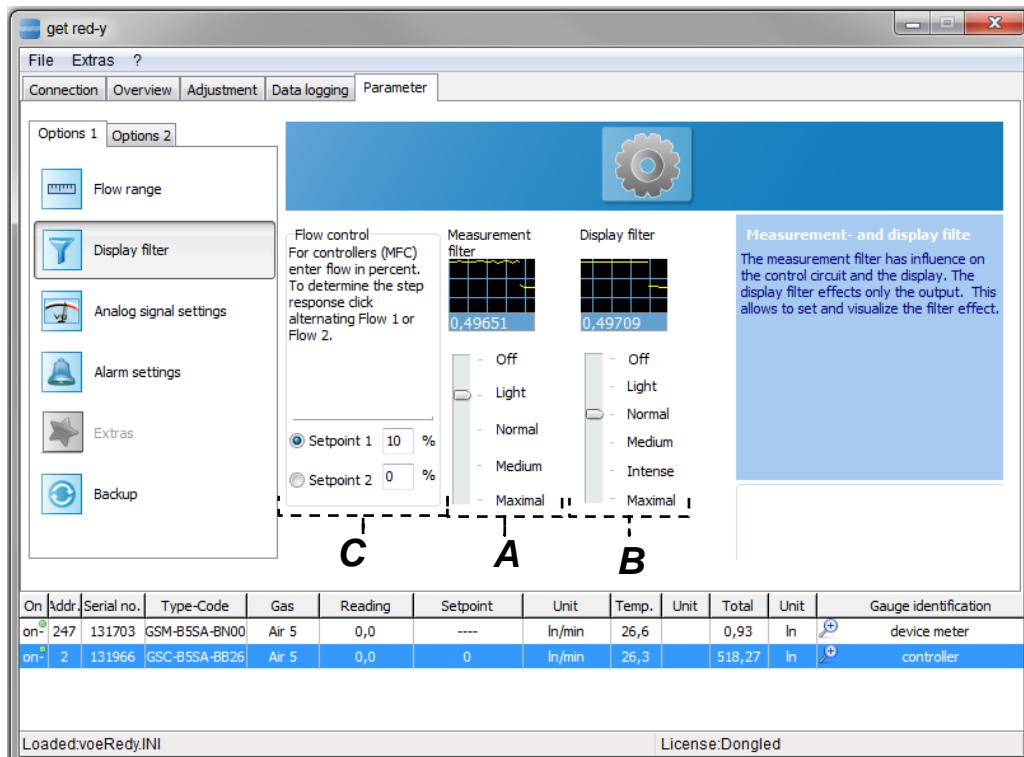

Figure 20: The Display filter page for setting the measurement value and display filters
- D. **From End Value:** The values in the [Cor. [%]] column in the Table in Figure 20 represent the measurement value errors in percentages. When you select a row the end value errors are also given in percentages.
- C. Flow control:** Changes to the measurement value filter have a direct effect on the control behavior. With the step response you can analyze how a change in the measurement value filter effects the control circuit. To do this enter the percentage values in the input boxes at Set point 1 or Set point 2 in Figure 20. (In % of the end value) After entering the set point settings, you can change between Set point 1 and 2.